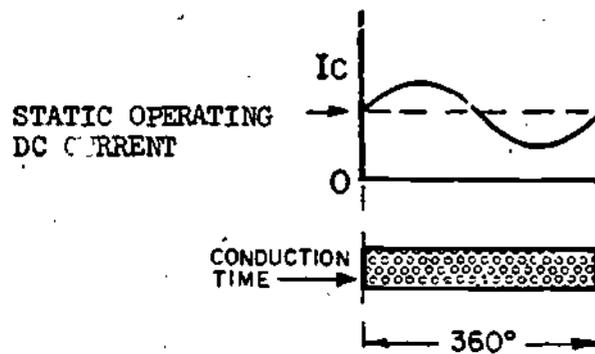

Figure 16
①7 Some type of gain control is needed to avoid overdriving an IF amplifier. To understand how the gain of an IF amplifier may be controlled, we first must examine the effect of bias on transistor amplification. You recall that transistors require a certain amount of operating DC current to function. The amount of forward bias on the transistor's base-emitter junction ( $V_{BE}$ ) affects the level of operating DC current in the transistor. As an example, Figure 16 shows the effect of forward bias on transistor operation in a Class A amplifier.
You remember that Class A amplifiers conduct even when no signal is present. This is called the transistor's static operating level, and is shown by the dotted line in Figure 16. When the transistor receives an input signal, the transistor produces a current waveform that varies about this static operating level. This waveform is shown by the sine wave in the figure. If the forward bias is changed, the static operating level of the transistor is changed.